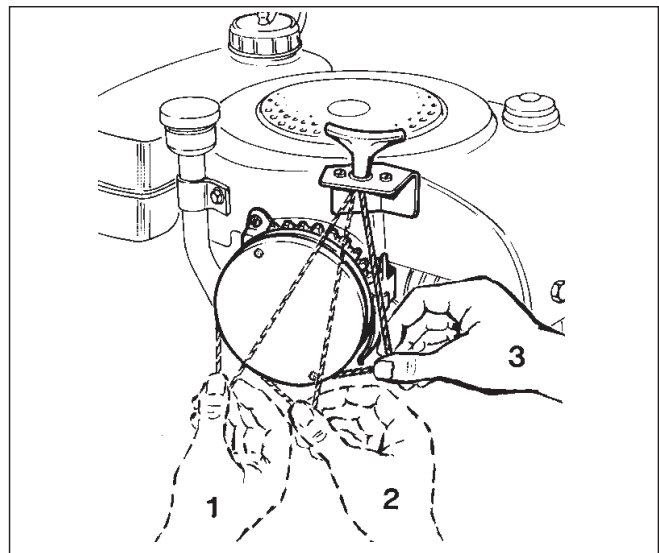

Fig. 17
- When the rope is fully wound give the pulley one more complete turn to obtain correct spring tension. (Fig 17).